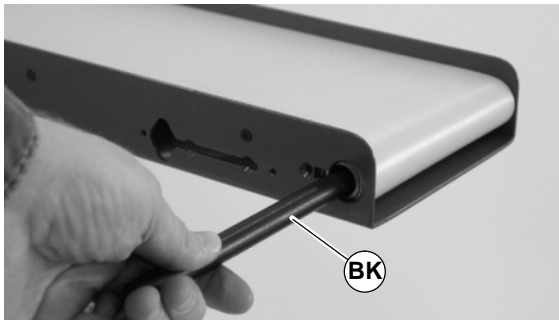

Figure 39
2. Insert sleeve arbor tool (BK of Figure 39) (45-02, part of tool kit 4500).